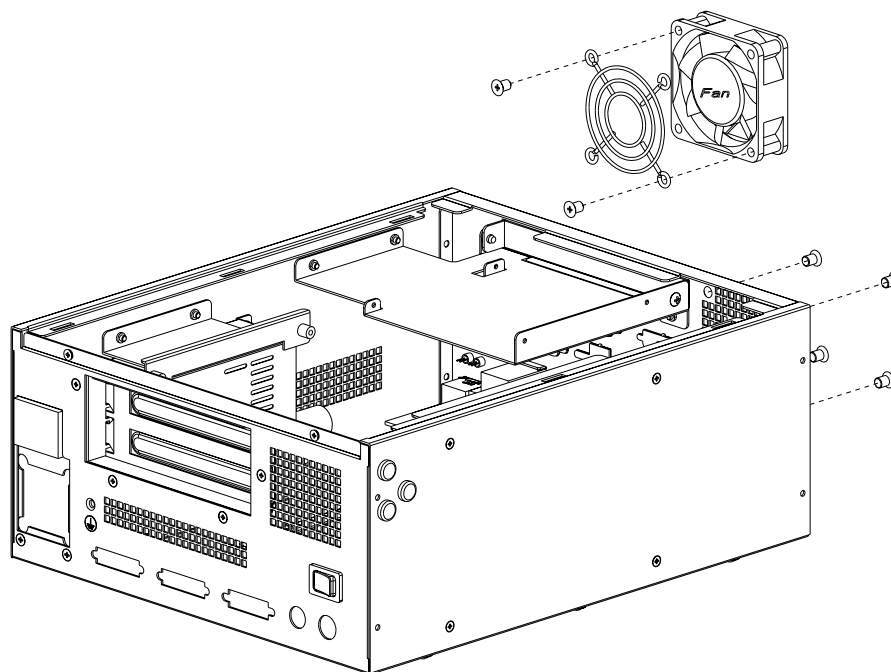

Figure 4.3 Replacing the system fan
3. Loosen the four screws on the front plate and take out the fan module. (see Figure 4.3)